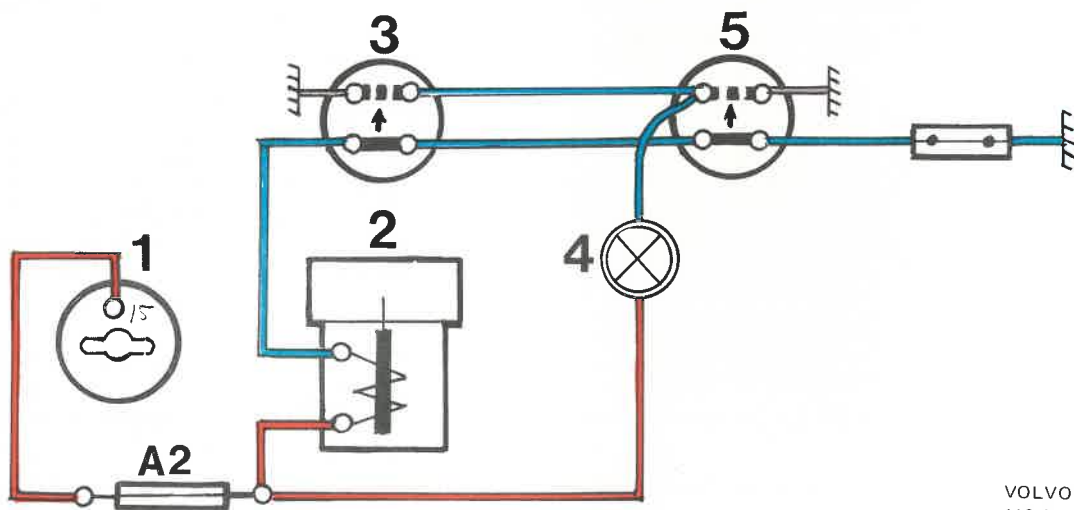

Fig. 38-7. Wiring diagram for front-wheel drive
The electrical system which operates the mechanical engagement of the front-wheel drive comprises the following components: solenoid, switch, contact and indicator light, see layout diagram Fig. 38-7.
- Ignition. With the ignition key in neutral, the current is broken and front-wheel drive is engaged. When the key is turned, the front-wheel drive is disengaged providing that the contacts and switches are in the position shown on Fig. 38-7.
The light marked "FRONT WHEEL DR" should light when the contact in the auxiliary gearbox or the panel switch is engaged, see Fig. 38-7.